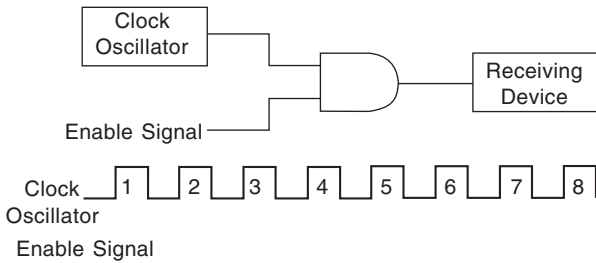

Fig. 4.95
37. Using the given diagram, sketch the waveform that will allow only the even pulses (2, 4, 6, 8 etc.) to get through. (See Fig. 4.95)